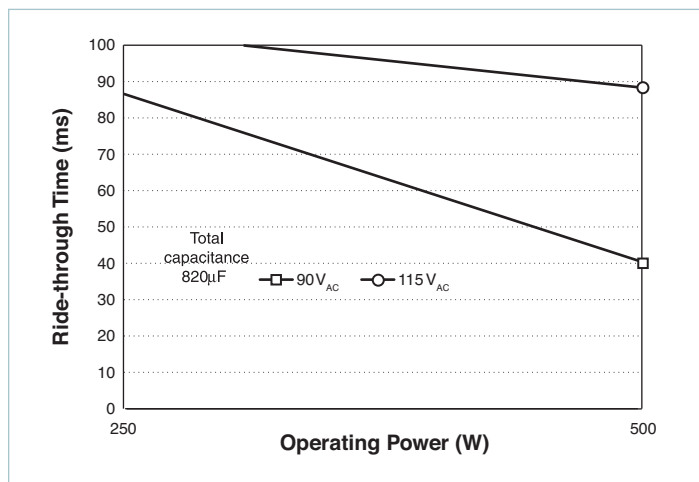

Figure 14 — Ride-through time vs. operating power
**Determining Ride-through Time:** Figure 14 illustrates ride-through time as a function of line voltage and output power, and shows that at a nominal line of 90VAC, ride-through would be 68ms. Ride-through time is a function of line voltage.